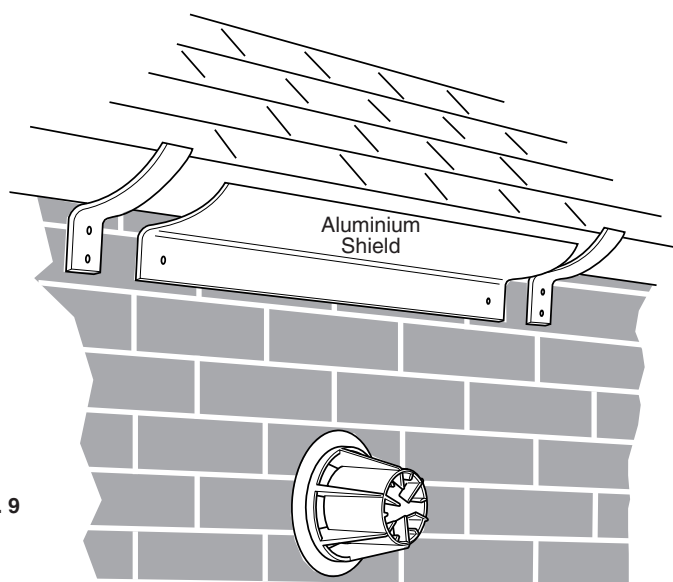

Fig. 9
3. If the terminal is fitted within 1 metre (39in) of a plastic gutter, within 500mm (19½ in) of a painted eave or a painted gutter, an aluminium shield of at least 1 metre (39in) long should be fitted to the underside of the gutter or painted surface. An air space of 5mm ($\frac{3}{16}$ in) should be left between shield and gutter (Fig. 9).